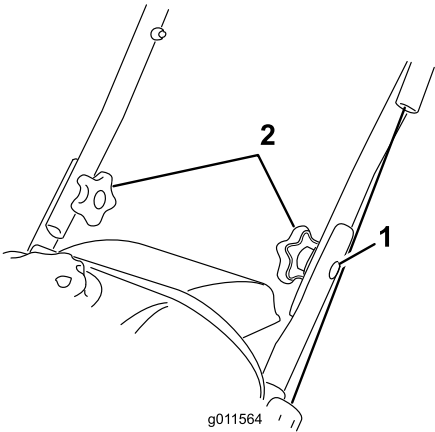

Figure 3
- Insert the oval-head bolts into the aligned holes, with the bolt heads on the outside of the handle (Figure 3).
- Oval-head bolt (2)
- Install the curved washers and the handle knobs on the oval-head bolts on the inside of the handle (Figure 3) and **tighten the knobs securely**.